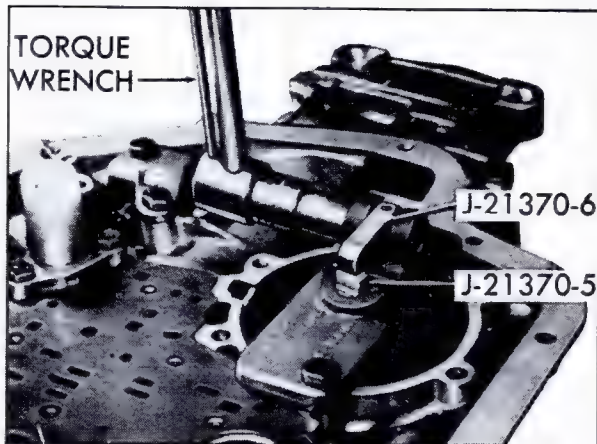

Fig. 7-48 Band Apply Pin Selection Check
1. Position Band Apply Pin Selector Gage, J-21370-6, on transmission case over rear servo bore, with hex nut on side of gage facing toward parking brake linkage, and smaller diameter end of Gage Pin, J-21370-5, in servo pin bore, Fig. 7-48.
3. To determine proper size pin to use, apply 25 foot-pounds torque on hex nut on side of gage, Fig. 7-48. This will cause lever on top of gage to depress stepped gage pin into servo pin bore, simulating actual operating conditions. Note relation of steps on gage pin and machined surface on top of gage. Determine proper size pin as follows: